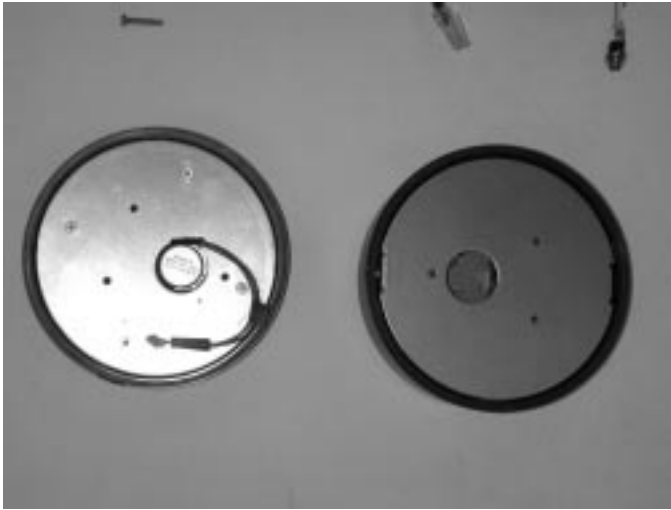

Figure 3 - Customer and operator assemblies.
1. Remove the two screws (one on each side) holding the mounting plate to the operator assembly. (See Figure 3)